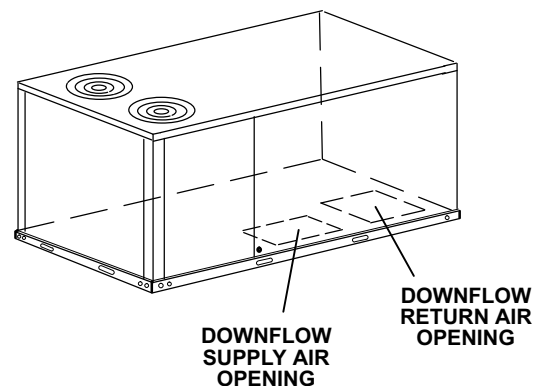

FIGURE 2
- 3- Install the supply air covers over downflow supply air opening. Center flanges will overlap and rear flanges fit underneath unit base pan. Secure cover in place with 4 screws provided. See figures 2 and 3.